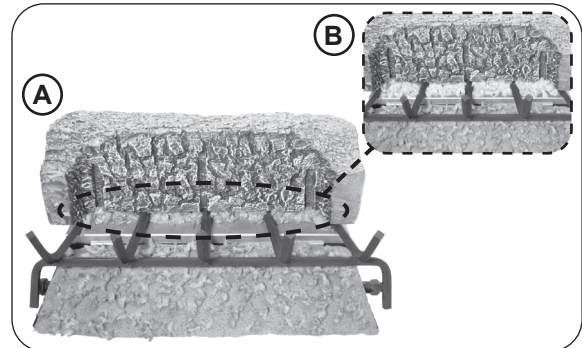

Fig. 2-2 Center rear log & fill panel with embers
6. Center the fiber rear log (included with this kit) onto the grate and shift it back to rest against the panel's rear tabs (see Fig. 2-2, A).
7. Sprinkle the glowing embers lightly and evenly over the surface of the panel (see Fig. 2-2, B).